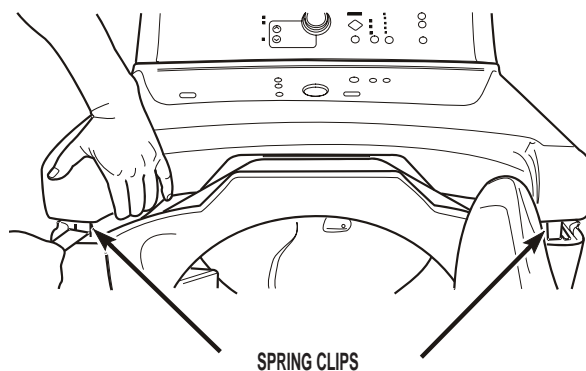

FIGURE 1
5. Lift dryer top. Use a putty knife to press against the left and right spring clips to release them from the top. Gently lean dryer top toward the wall so as not to damage the dryer top or wall. See *Figure 1*.